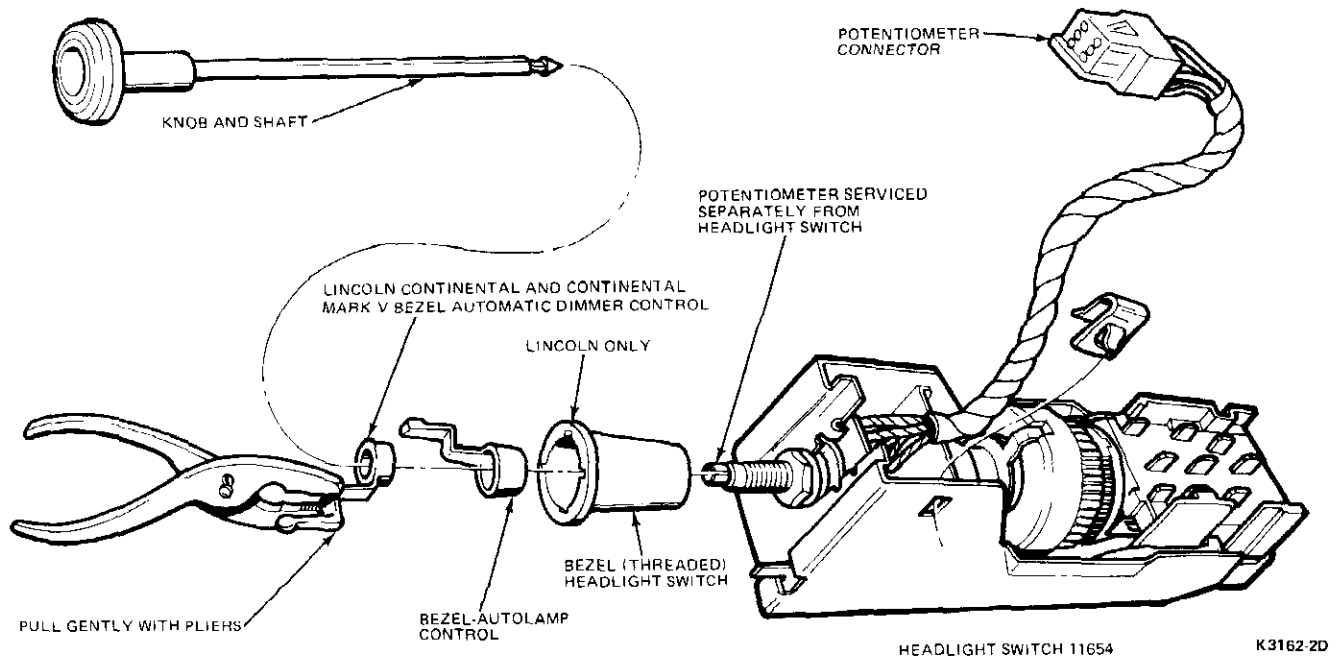
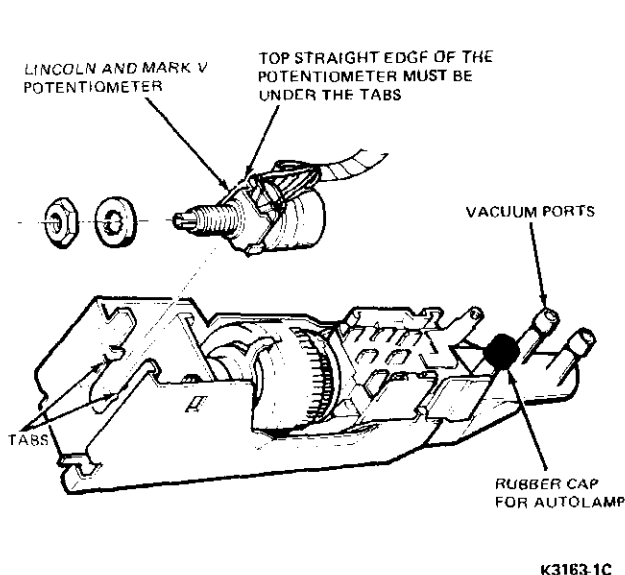

FIG. 4 Autolamp Headlamp Switch
FIG. 5 Headlamp Switch—Lincoln Continental, Continental Mark V
2. Remove the headlamp switch knob and shaft (Fig. 4).
8. Remove the nut and washer from the potentiometer or headlamp switch (Fig. 4). **NOTE:** When assembling, notice that the top straight edge of the potentiometer is located under the two 90 degree tabs on the headlamp switch bracket (Fig. 5).